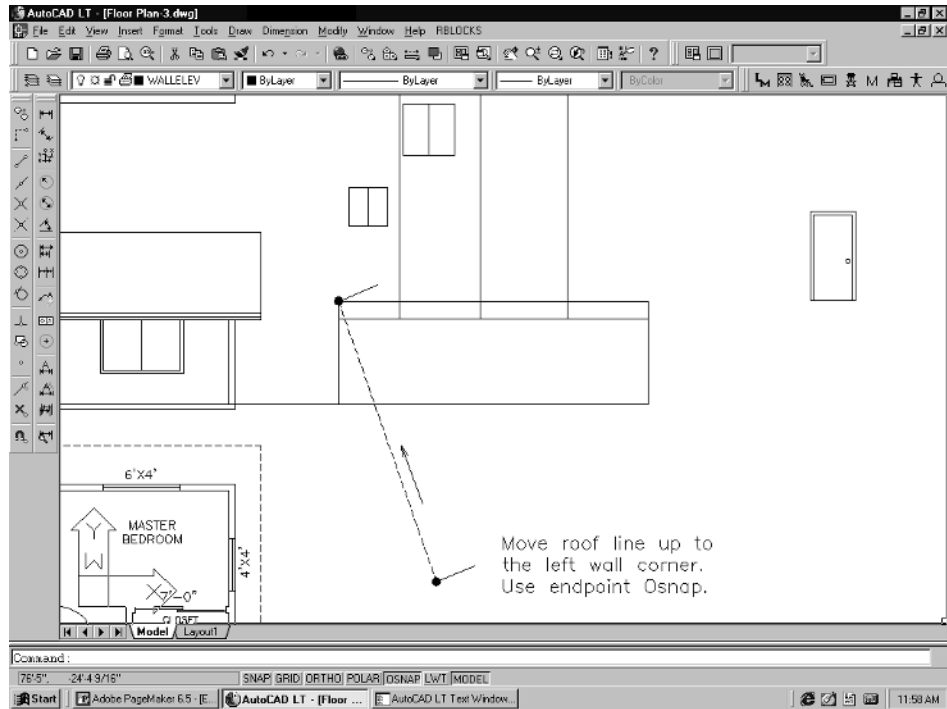

Figure 4-29
8. Use the Move command to move the roof line, windows, and door into place. When prompted to *Select objects*, pick the roof line. Then **Enter**. At the *Specify base point or displacement, or [Multiple]* prompt, pick the roof line at the endpoint. Then, at the *Specify second point of displacement or <use first point as displacement>* prompt, drag the roof line over to the elevation and drop it on the upper left corner of the elevation walls. See Figure 4-29.